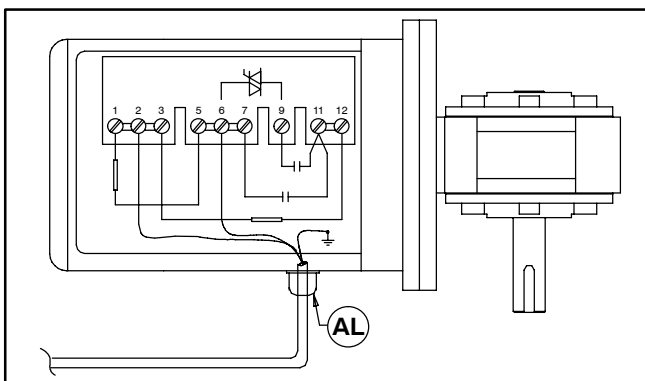

Figure 26
- b. Record wire colors on terminals 2, 6 and ground (\perp) (Figure 26). Loosen terminals 2, 6 and ground and remove wires.
- c. Loosen cord grip (AL of Figure 26) and remove cord.